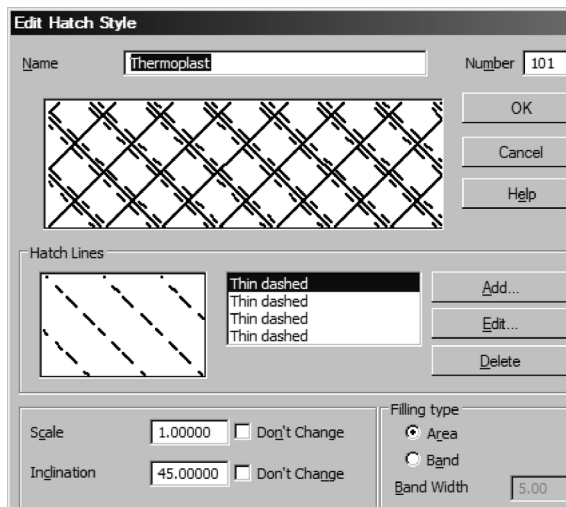

Fig. 8.12. Creating the third and the fourth groups of lines
13. In the Line Properties Customizing dialog, which appears on the screen, select the **Thin Dashed** style and set the location parameters for the fourth group of lines. Then close the dialog by clicking the **OK** button. To monitor the correctness of your operations, compare the dialog that you see on the screen with the dialog shown in Fig. 8.12.